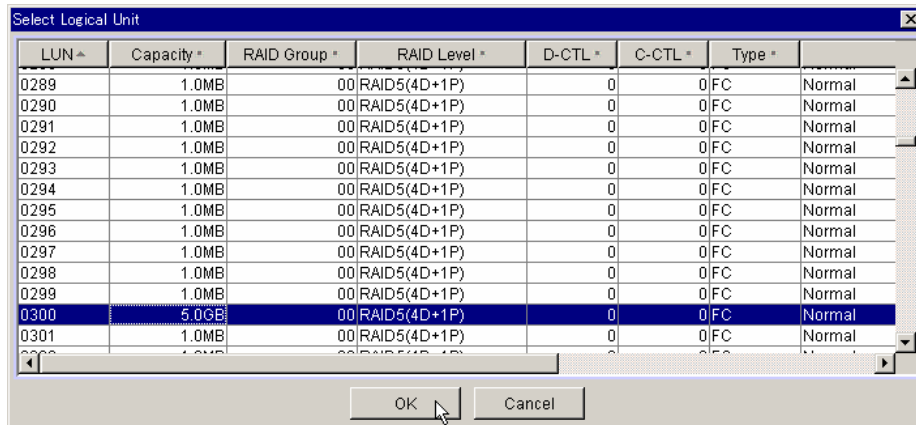

Figure 4.22 Select Logical Unit Window
4. The **Select Logical Unit** window displays (see Figure 4.22).